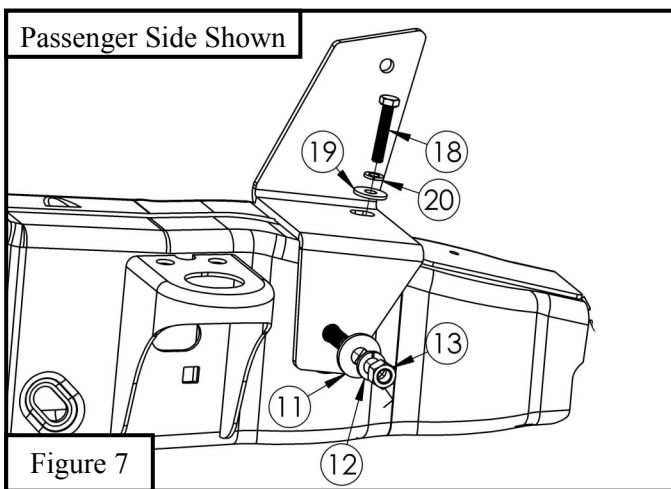

Figure 7
- Locate (1) mount bracket (Item 4/5) and loosely secure to the previously installed M12 stud plate using (1) M12 flat washer, (1) M12 split lock washer, (1) M12 hex nut, (1) M8 hex head cap screw, (1) M8 flat washer and (1) M8 split lock washer. See **Figure 7**.